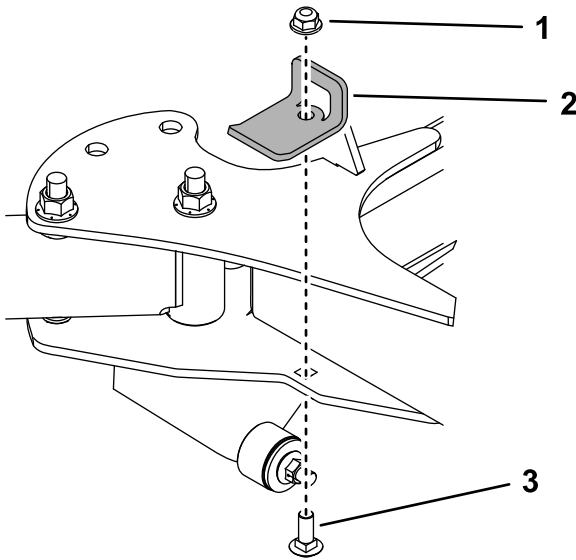

**Figure 28**
- Remove the hitch pin, cotter pin, and hitch receiver from the A-frame. Install the hitch pin and cotter pin to secure the A-frame (Figure 28).